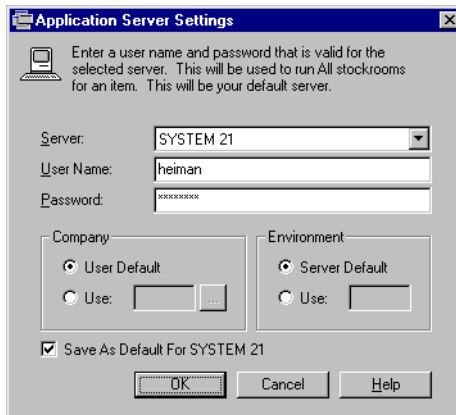

Figure 63. System 21 Explorer logon
2. Double-click the activity icon to start the activity. A logon panel for the AS/400 server should appear in the Application Server Settings dialog as shown in Figure 63.